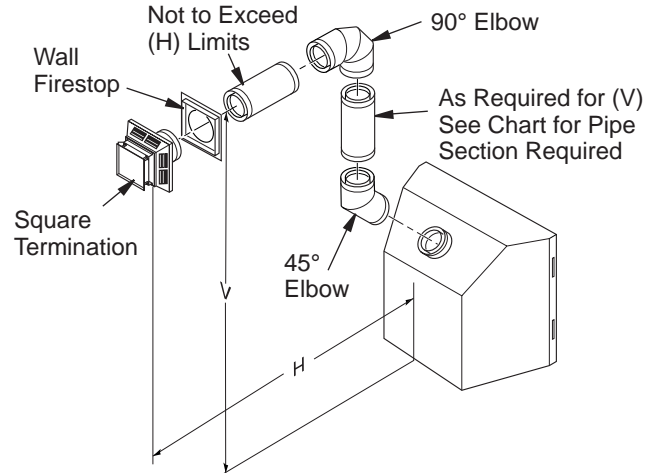

**Figure 14 - Horizontal Termination Configuration for Square and Round Terminations**
**IMPORTANT:** Horizontal square terminations require only inner portion of wall firestop. Horizontal installations using round termination require exterior portion of wall firestop available only in vent kit HTK (see Figure 14, page 10).
1. Set the fireplace in its desired location and determine the route your horizontal venting will take. Do not secure the fireplace until all venting has been installed. Some installations require sliding the fireplace in and out of position to make final venting connections. Figures 14 through 18 on pages 10 and 11 show different configurations for venting with horizontal termination that will help you decide which application best suits your installation. Check to see if wall studs or roof rafters are in the path of your desired venting route. If they are, you may want to adjust the location of the fireplace.
Figures 14 through 18 show different configurations and alternatives for venting with horizontal termination. Each figure includes a chart with critical minimum and maximum dimensions which **MUST** be met. **IMPORTANT:** If using a venting configuration of only horizontal venting with no vertical run, a 1/4" rise for every 12" of run toward the termination is required.